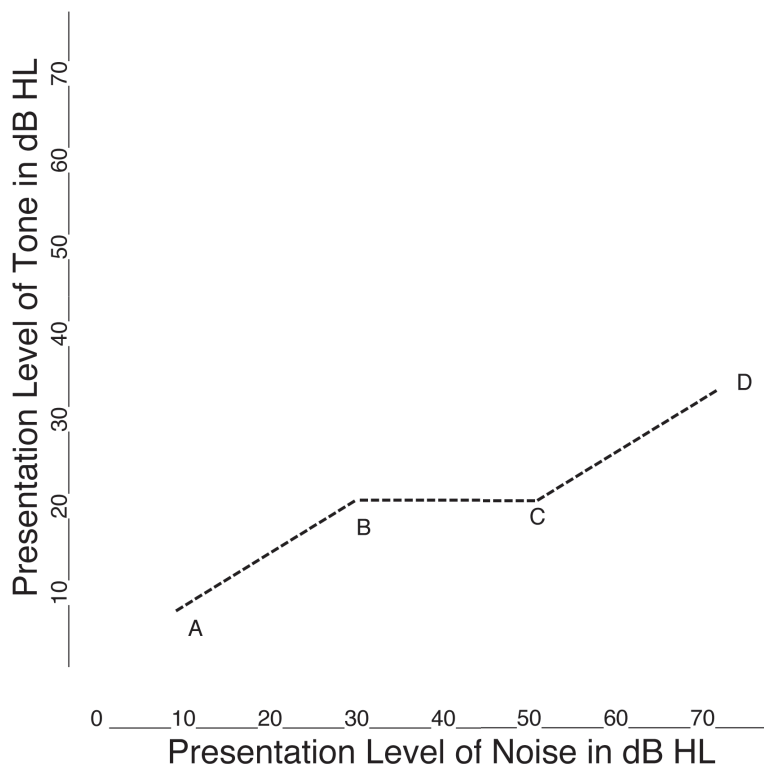

Figure 9-7. Diagram shows undermasking, plateau, and overmasking. (From Valente, 2009)
Effective masking (EM) eliminates crossover from occurring. Effective masking determines how much noise is appropriate to “keep the better ear busy” while you test the poorer ear (Figure 9-7.)